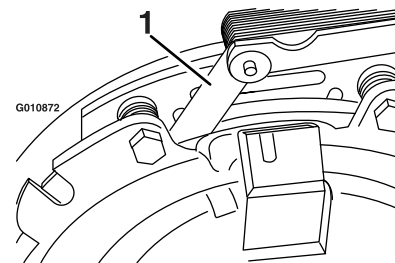
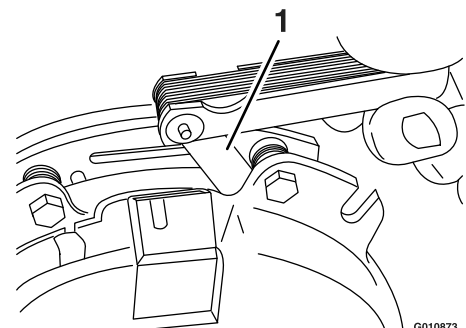

Figure 71
Figure 72
- E. Using a 0.010 inch thick feeler gauge, verify that a gap is present between the rotor and armature face on both sides of the brake pole as shown in Figure 71 and Figure 72.